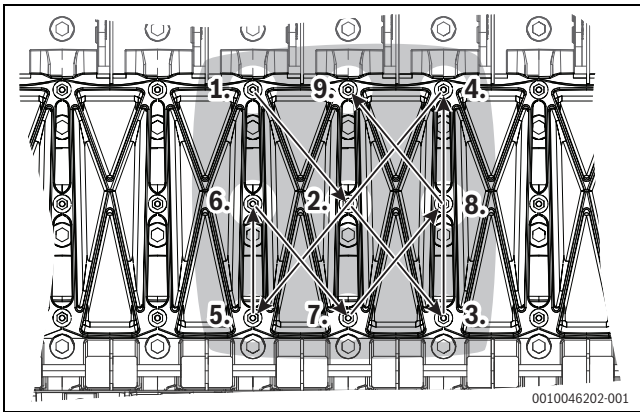

Fig. 68 Cleaning access cover tightening diagram
- Screw the cleaning access cover back on according to the following tightening diagram (1-2-3-4-5-6-7-8-9; → Fig. 68) (tightening torque: 7 Nm) or wet clean the heat exchanger.